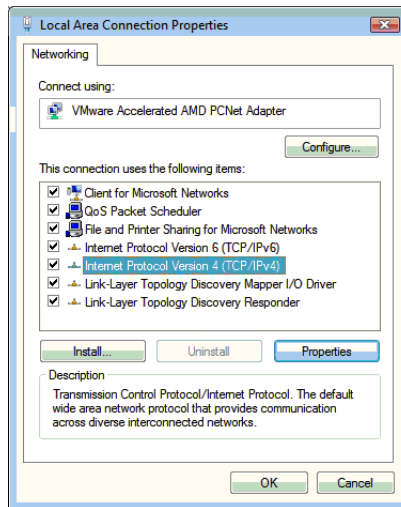

Figure 6-6 Local Area Connection Properties
3. Right-click on the Local Area Connection icon and select the Properties option. After you provide permission to continue, the PC displays the Local Area Connection Properties window (Figure 6-6).